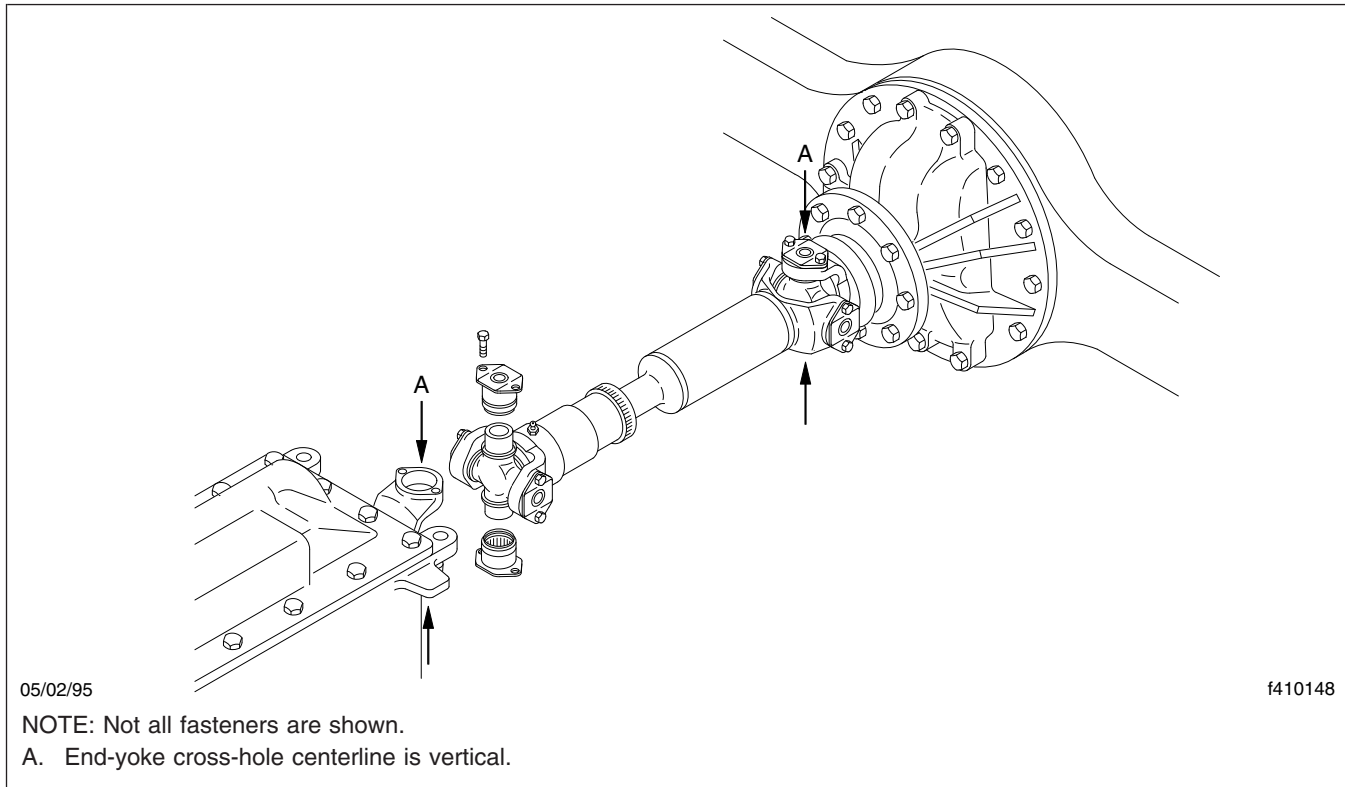

Fig. 1, U-Joint Uncoupling/Coupling of a Driveline With Full-Round End-Yokes
- 1.5 Turn the end-yoke until the centerline through its cross-holes is vertical. See Fig. 1.